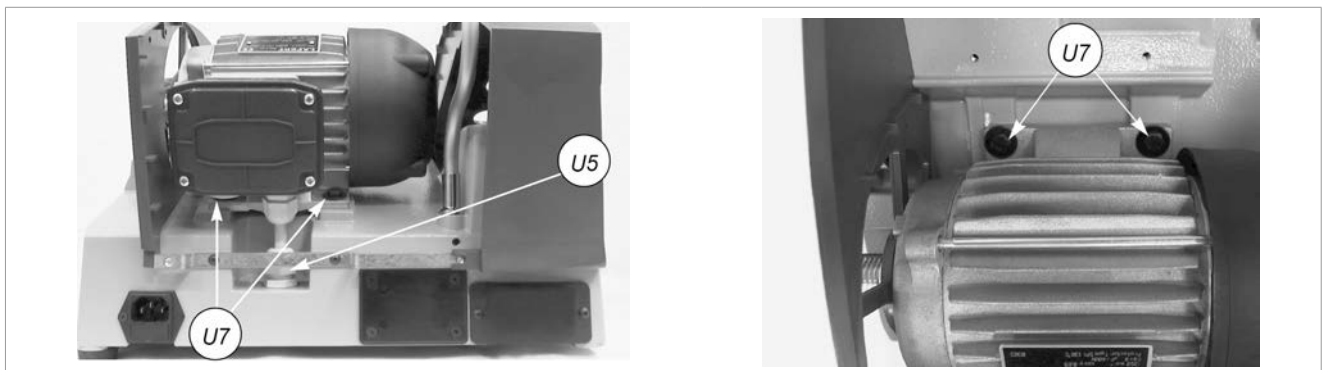

Fig. 42
- 8) Loosen the fairlead (U5) (Fig. 42).
- 10) Loosen the 4 fixing screws on the motor (U7) (Fig. 42) and remove, paying attention to the wire.